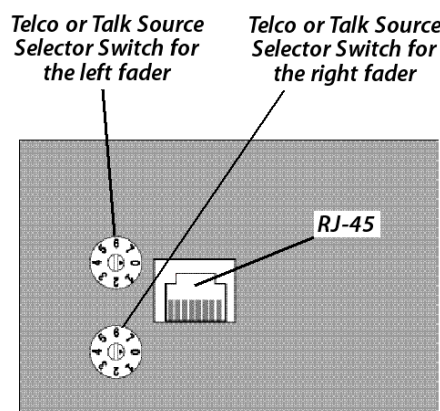

Figure 2-4. Dual Fader Panel, Bottom View
2. Unplug the red cable from the panel. Adjacent to the cable connector are two rotary switches (Figure 2-4). The rotary switches are labeled 0 – 7 with an arrow indicating the selected number. The upper switch affects the left channel strip. The lower switch affects the right channel strip. When a channel strip is not a Telco channel or a possible CR talk source, the switch should be set to 0.